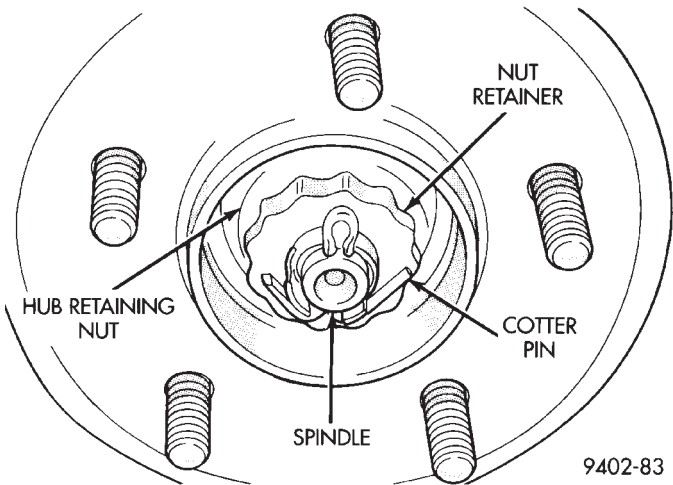

Fig. 81 Rear Hub And Bearing Retaining Nut
(4) Remove rear hub and bearing assembly cotter pin, nut retainer, wave washer, hub/bearing retaining nut and the washer (Fig. 81) from rear spindle. Then remove rear hub and bearing assembly from spindle.
(5) Remove the rear brake shoes from the brake support plate. Refer to Rear Brake Shoes in the Removal And Installation Section in this group of the service manual for the proper brake shoe removal procedure.